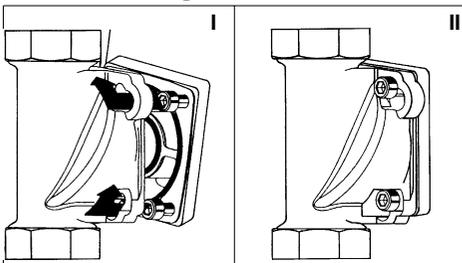

Fig. 4: Built-in rotary flange with Bayonet Fixture
**The built-in rotary flange must be installed in the direction of flow. This is marked by a cast in arrow (see Fig. 4).**